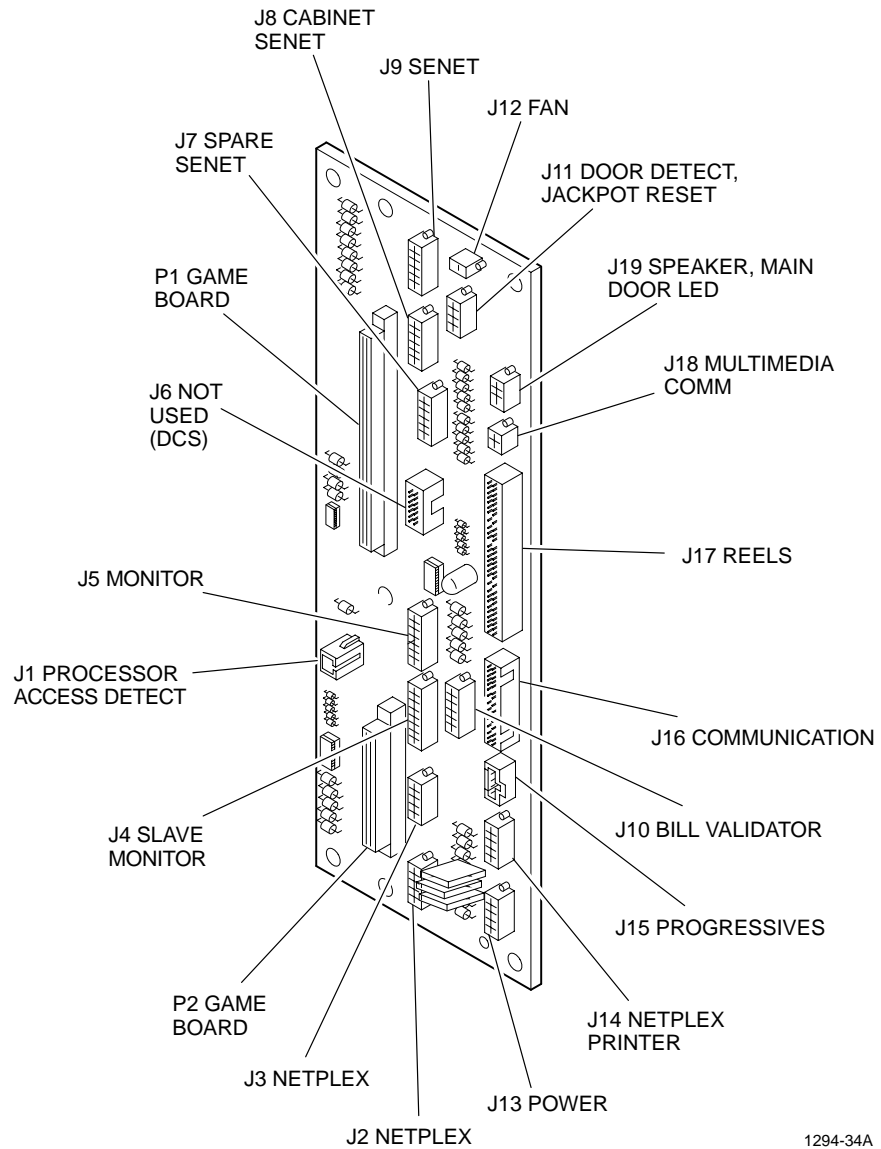

Figure 11-7. Motherboard Connectors.
2. Orient the motherboard so that connector J13 is in the lower right corner (see Figure 11-7) and carefully rest the motherboard onto the threaded standoffs on the processor frame.